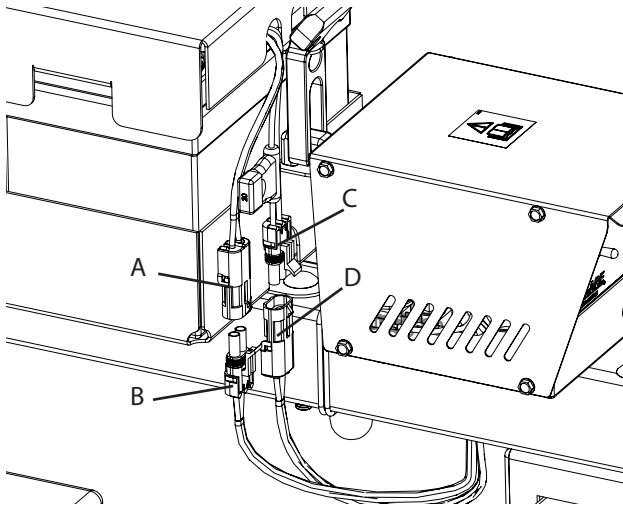

Figure 11: Reconnect the charge controller and speed controller. (Reconnect the battery and speed controller if applicable.)
- Reconnect the speed controller harness (B) to the charge controller harness (A). (Figure 11)
- Reconnect the battery harness (C) to the charge controller harness (D) (if applicable). (Figure 11)